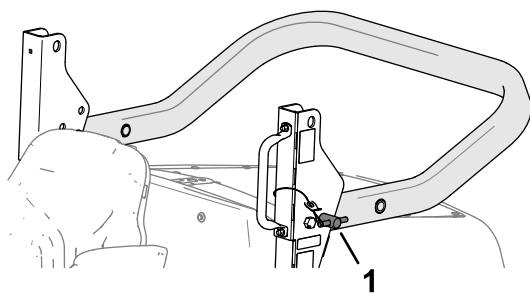

Figure 31
- Remove the roll-bar pins to the pivot brackets (Figure 31).